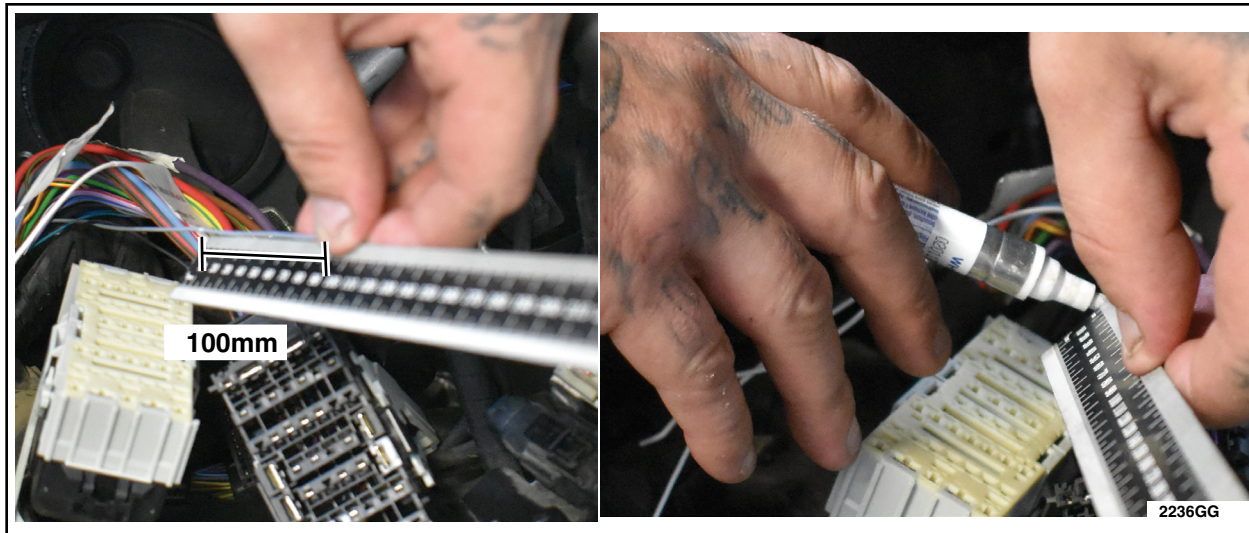

FIGURE 39
45. About 100mm down, on the identified wire, mark the wire to prepare to insert new wire from aux box wiring harness. Cut the gray wire. See Figure 39.